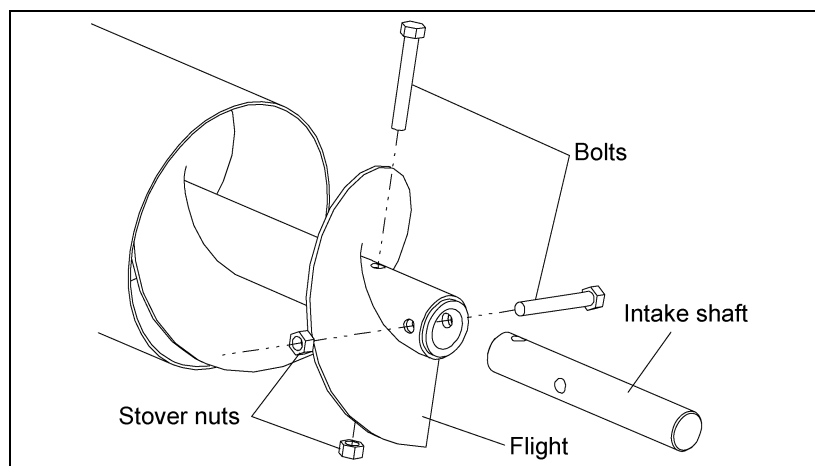

Figure 4Z
- Begin by assembling the intake shaft to the flight using the required grade 8 bolts and stover nuts. (See Chart below and Figure 4Z.)